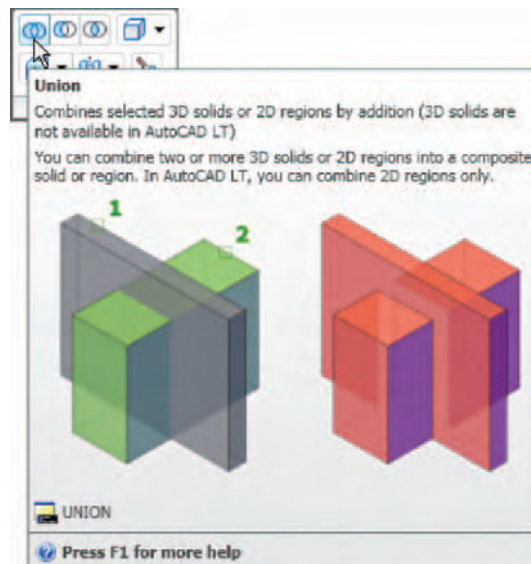

Fig. 12.12 The Union tool icon in the Home/Solid Editing panel
3. Drawing **2** – call the **Union** tool from the **Home/Solid Editing** panel (Fig. 12.12). The command line shows: